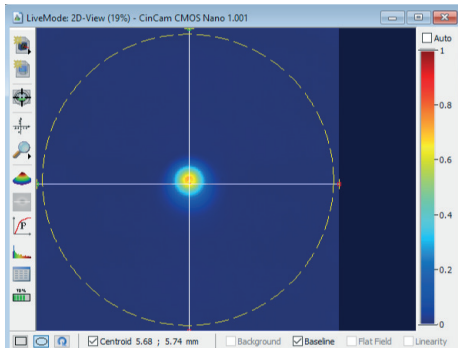

Figure 1. Setting beam position.
1. Install camera ~1200 mm from the laser output, center it and set current beam position as a reference point by placing crosshair over the center (fig. 1).